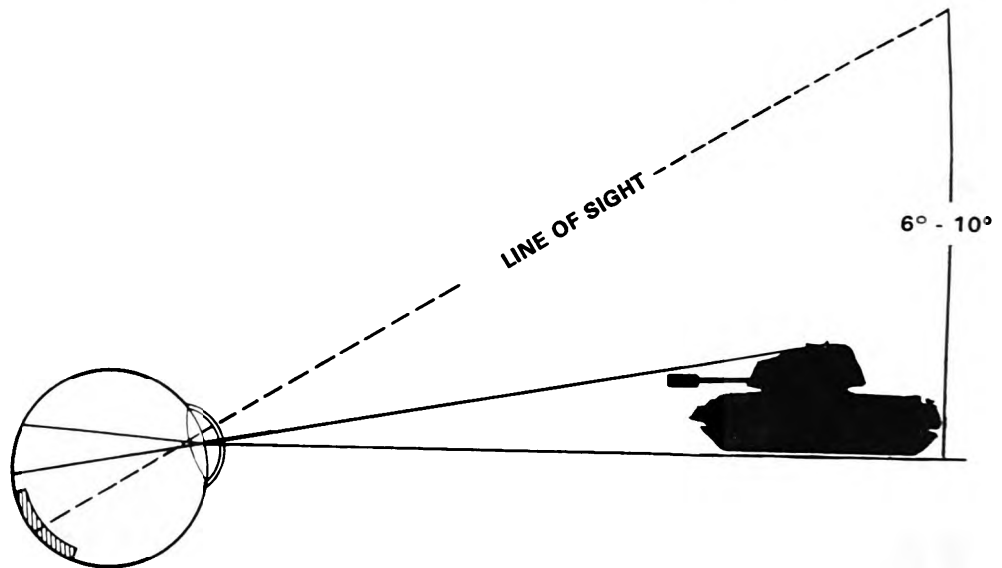

Figure 4.
c. Off-center vision. To observe specific objects, look slightly to the left, right, above, or below them, by about 6 to 10 degrees (figure 4).